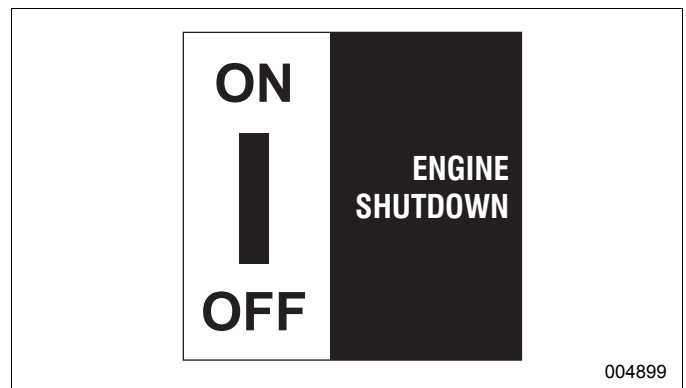

Figure 21 - Engine Shutdown Decal
9. See **Figure 21**. Apply one supplied engine shutdown decal next to rocker switch.